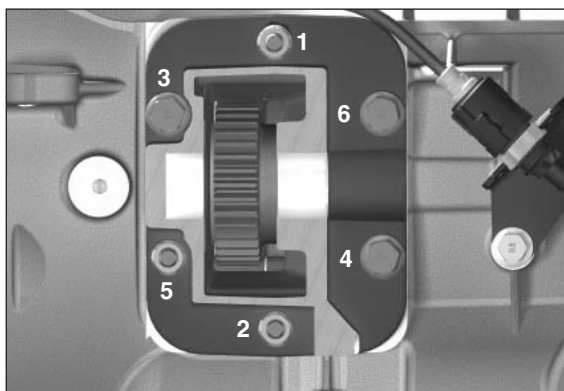

Figure 56
14. Torque all capscrews (**Fig. 56**) to 25 lbs-ft [34 Nm] and torque the self-locking nuts to 35-40 lbs-ft [48-54 Nm].
**NOTE:** Always torque fasteners in a crossing pattern (**Fig. 56**).